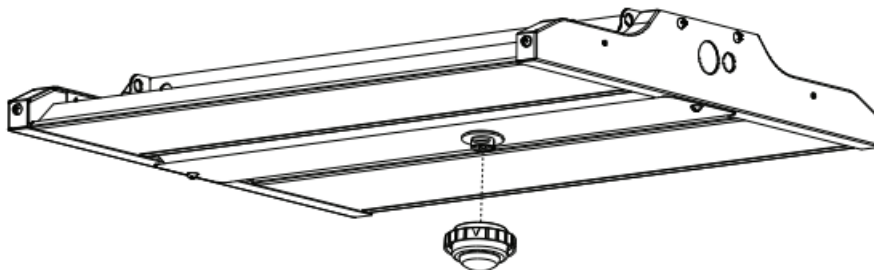

FIG. 3
3. Plug the c-Max™ control node into the USB-C receptacle (see FIG. 3).